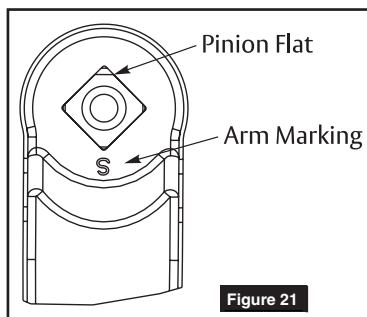

Figure 21
**NOTE:** Pinion flat should be aligned as shown. (Figure 21)